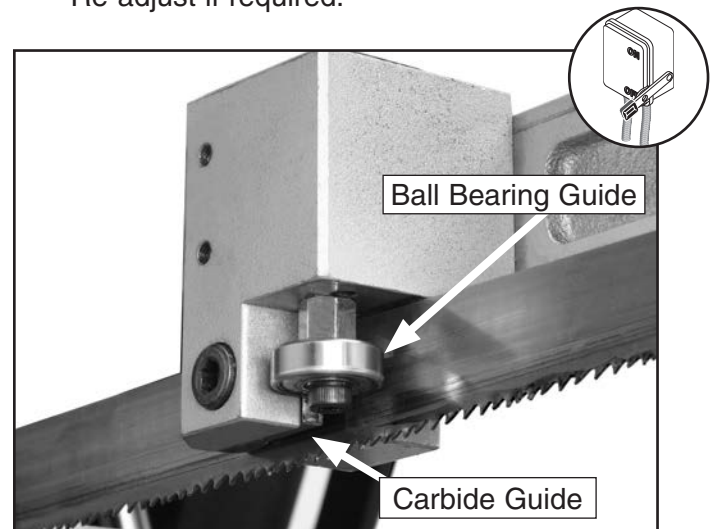

Figure 47. Guide types.
12. When finished with the carbide guide adjustments, make sure the ball bearing guide (**Figure 47**) adjustments have not changed. Re-adjust if required.